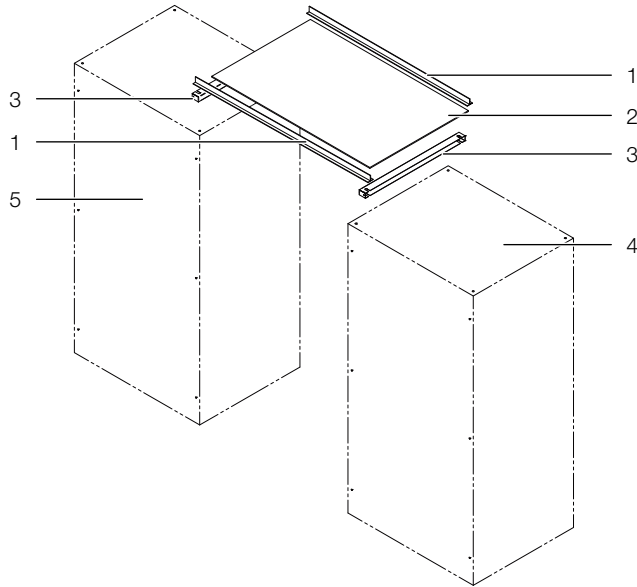

Fig. 48: Centre aisle covering
- Remove the protective foil from both sides of the polycarbonate panel (fig. 48, item 2).